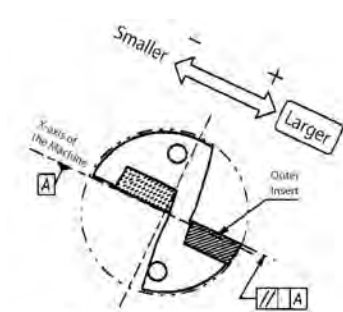

Fig. 2 Outer Insert Facing Up
- ① Cutting diameter is adjusted by moving the tool in the X-axis direction. The moving direction of the X-axis movement depends on the position of the toolholder.
- ② For making the hole diameter larger, slide the tool along the X-axis toward the outer insert side. (Fig. 2, Fig. 3) For making the hole diameter smaller, slide the tool along the X-axis in the opposite direction. (This movement of the axis is called "Offset") However, be sure not to make the hole diameter smaller than the drill diameter by 0.2mm (.008") or more. Otherwise, the toolholder will interfere with the drilled hole. (Fig. 4) e.g.) when using  $\varnothing 20$  ( $\varnothing .787$ ") drill, the hole diameter must not be smaller than 19.8mm (.780") .